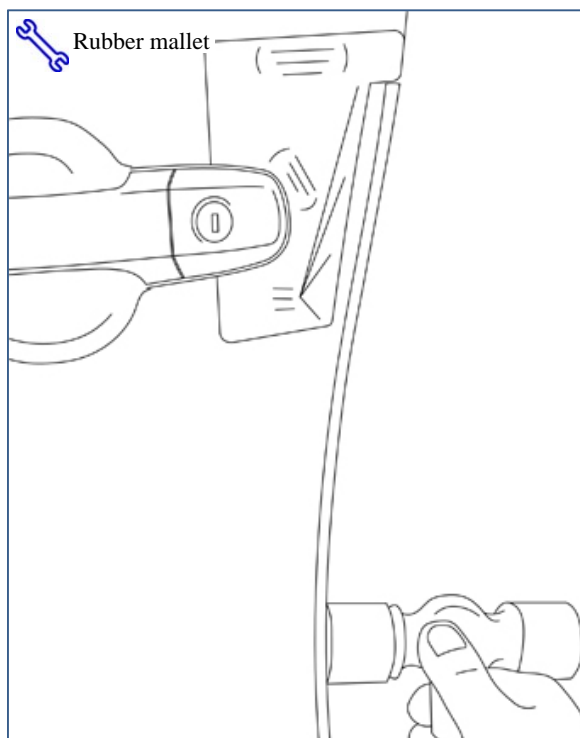

Fig. 2-7
(4) Continue progressively tapping the channel onto the door edge, proceeding down the entire length of the DEG. Use your other hand to steady and guide the DEG as you go (Fig. 2-7).